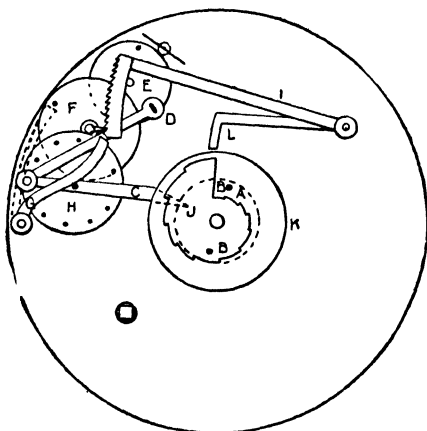

Fig. 66.—Front View of French Rack Striking Work
**French Rack Striking Work.**—French clocks fitted with rack striking will now be considered. Fig. 66 shows the mechanism, which will be seen to be all on the front plate and underneath the dial.
striking clock the locking wheel **F** is called the "pallet wheel," because its front pivot is prolonged and carries a small "pallet" whose duty it is to "gather" up the rack. In Fig. 66, the gathering pallet is shown affixed to the arbor of the wheel **F**, and pointing towards the rack teeth.
The cannon pinion **A** (shown by the dotted circle), the pins **B**, **B**, and the levers **C** and **D**, are the same as in the locking-plate striking. Also the locking arm pivoted between the plates (shown by a dotted line) is the same, but the lever affixed to it, marked **G** in Fig. 66, is different, and its purpose is to hold up the rack as the gathering pallet gathers it up tooth by tooth. **I** is the rack, **K** is the hour wheel which revolves once in twelve hours and carries the snail **J**. The latter is a piece of brass with steps cut in it corresponding to the different hours to be struck, and determines the distance to which the rack falls at each hour.
causes one blow to be struck. The lever, c, meanwhile rests against the rack teeth, and as soon as the rack is all gathered up it falls to the position shown in Fig. 66. This, of course, brings the locking arm into contact with the pin in the pallet wheel and stops the striking train.